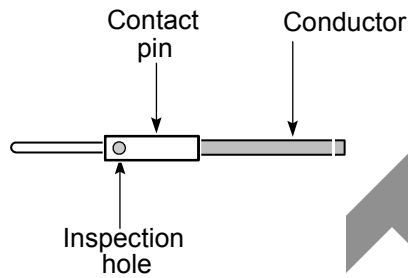

Figure 51 – Attaching a contact pin
10. Place a contact pin on a lead and check that the lead is inserted completely by looking in the hole in the contact pin; see *Figure 51*. There should be no more than 1 mm (0.04 in.) of exposed conductor protruding from the pin.